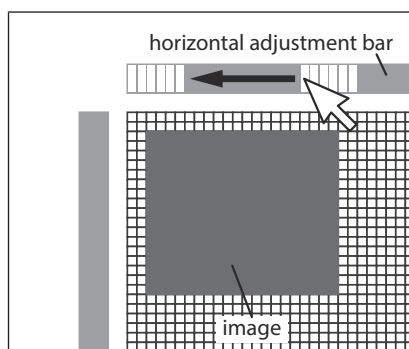

Fig. 97
2. Click and hold down on the left mouse button whilst moving the cursor left and the individual pixels will highlight (in white) one by one along the top bar, as shown in **Fig.97**.